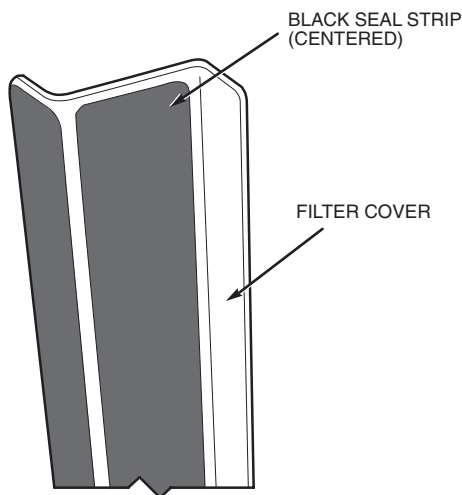

Fig. 45 — Attaching Seal Strip to Filter Cover
17. Attach black seal strip (provided) to filter cover. Seal strip should be applied centered over the holes of the one flange, making sure to fully cover holes and centered over the other large flange. See Fig. 45.